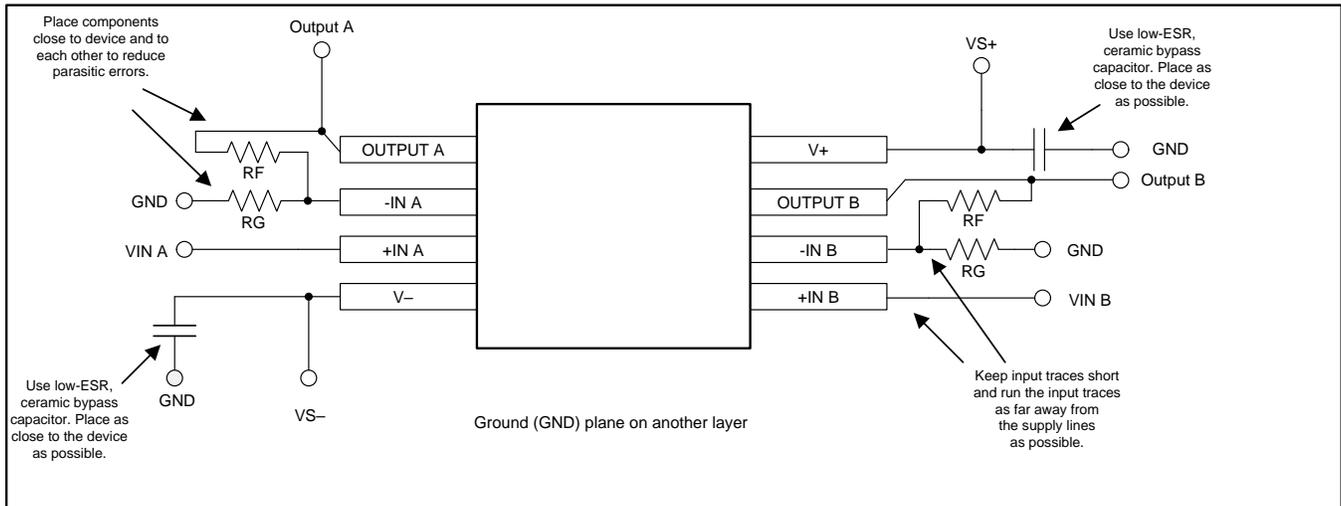

图 64. Operational Amplifier Board Layout for Noninverting Configuration
- Place the external components as close as possible to the device. As shown in Figure 64, keeping  $R_F$  and  $R_G$  close to the inverting input minimizes parasitic capacitance.